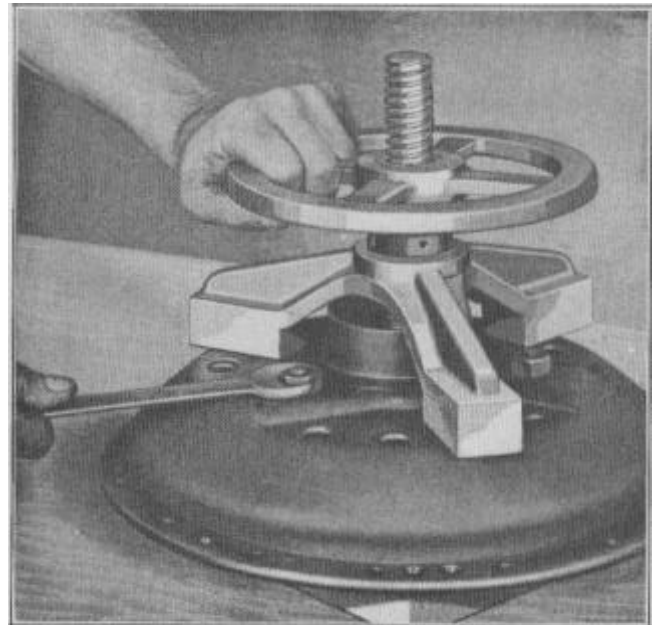

FIGURE 7
Use clutch fixture J-298-H Figure 7 to compress the engaging springs. With spring load relieved, remove the 3 nuts from back of cover and remove the cover, springs, fingers, finger retainers and sealing washers.
5. Using clutch assembly fixture J-298-H Figure 7, or other suitable means, pull cover into place by compressing engaging springs. Install lockwasher and nut on each finger retainer and draw nuts up to 40-45 foot pounds torque after cover is pressed all the way down.
10. Using finger setting gauge J-774, as shown in Figure 7, check relative height of each finger. Reading should be same for each finger within .010".